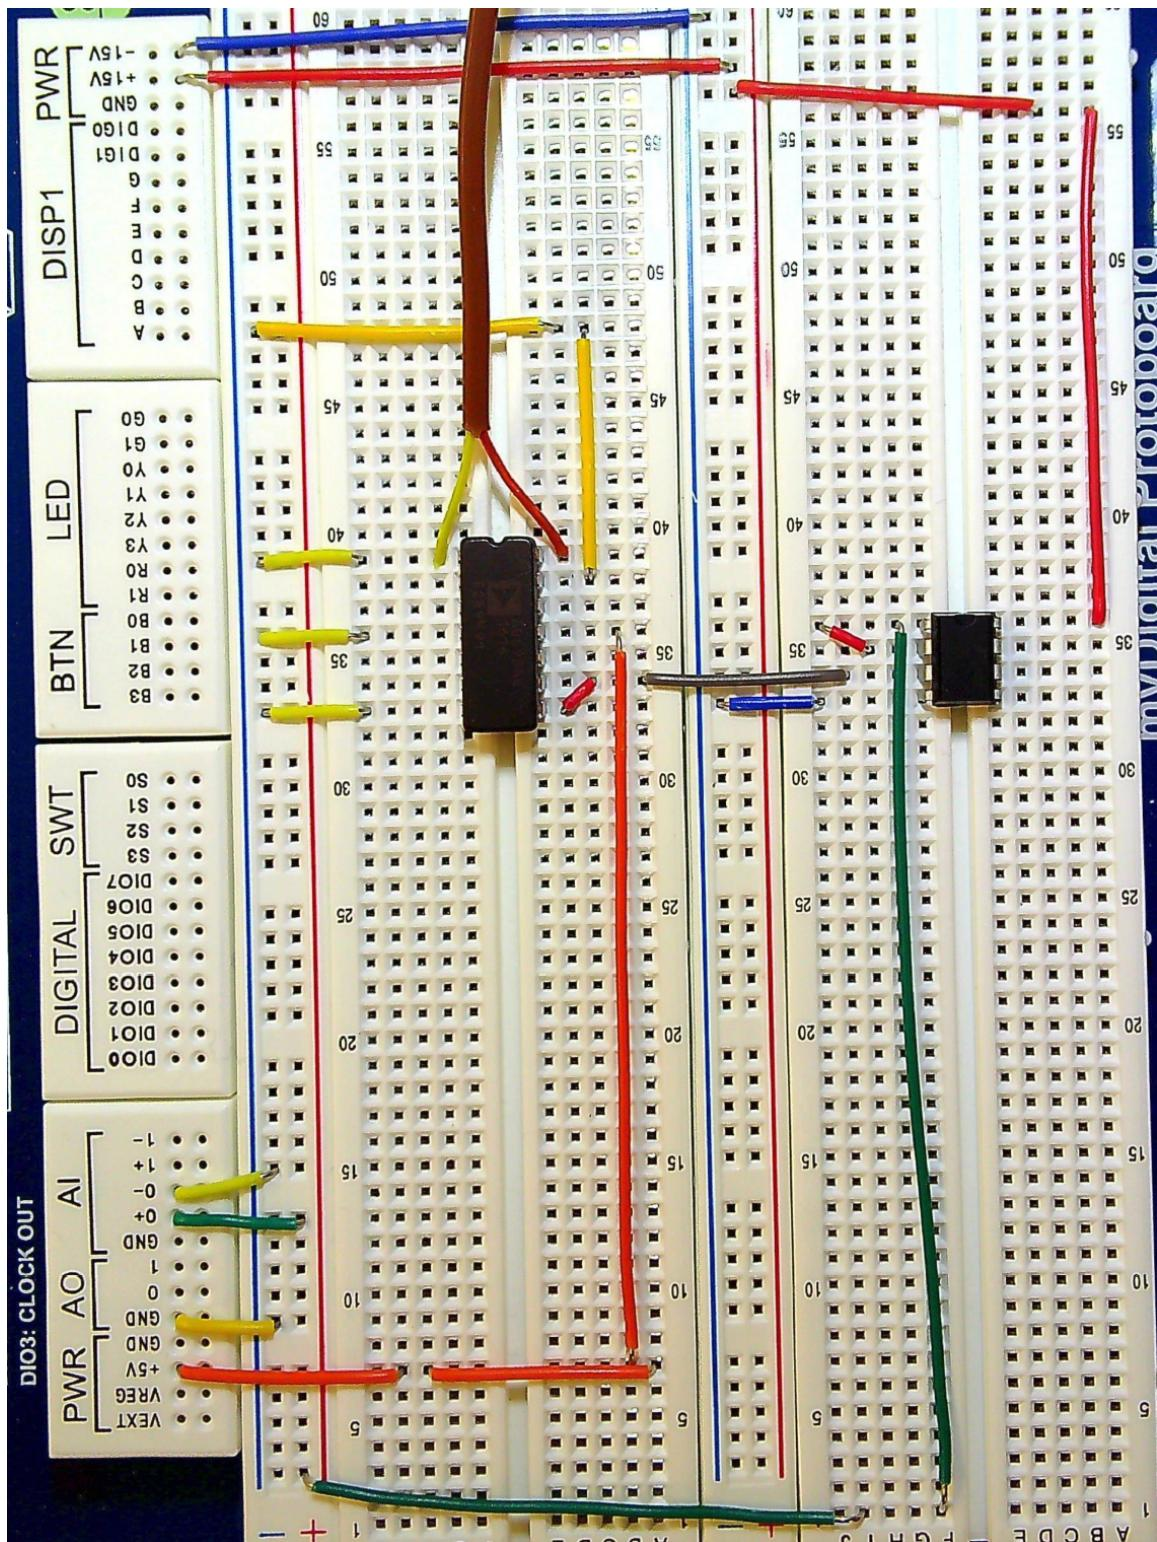

Figure 3: Sample circuit for the thermocouple chip and voltage follower circuit.
7. Construct the circuit shown in Fig 3. using the AD595AQ thermocouple chip and the LM358 Op-Amp. Use the powered breadboard to make it easier to integrate it with the voltage follower circuit.